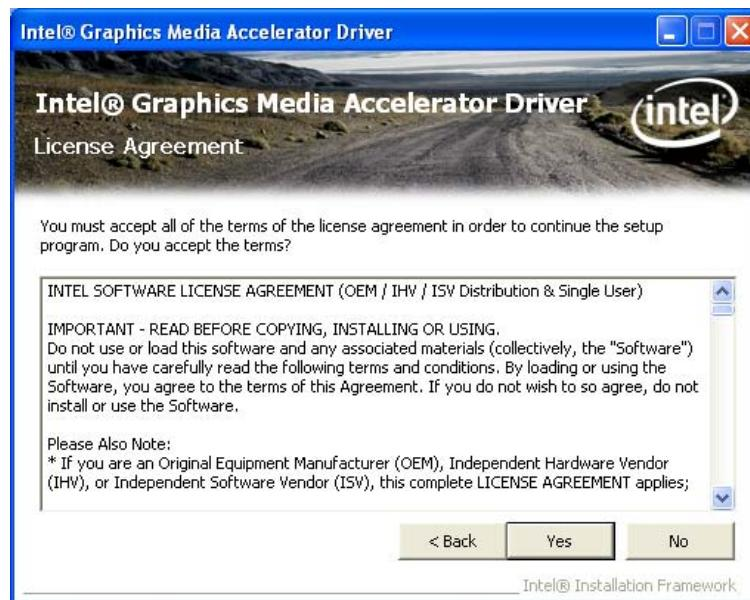

Figure 6-11: VGA Driver License Agreement
Step 8: The license agreement in Figure 6-11 appears.